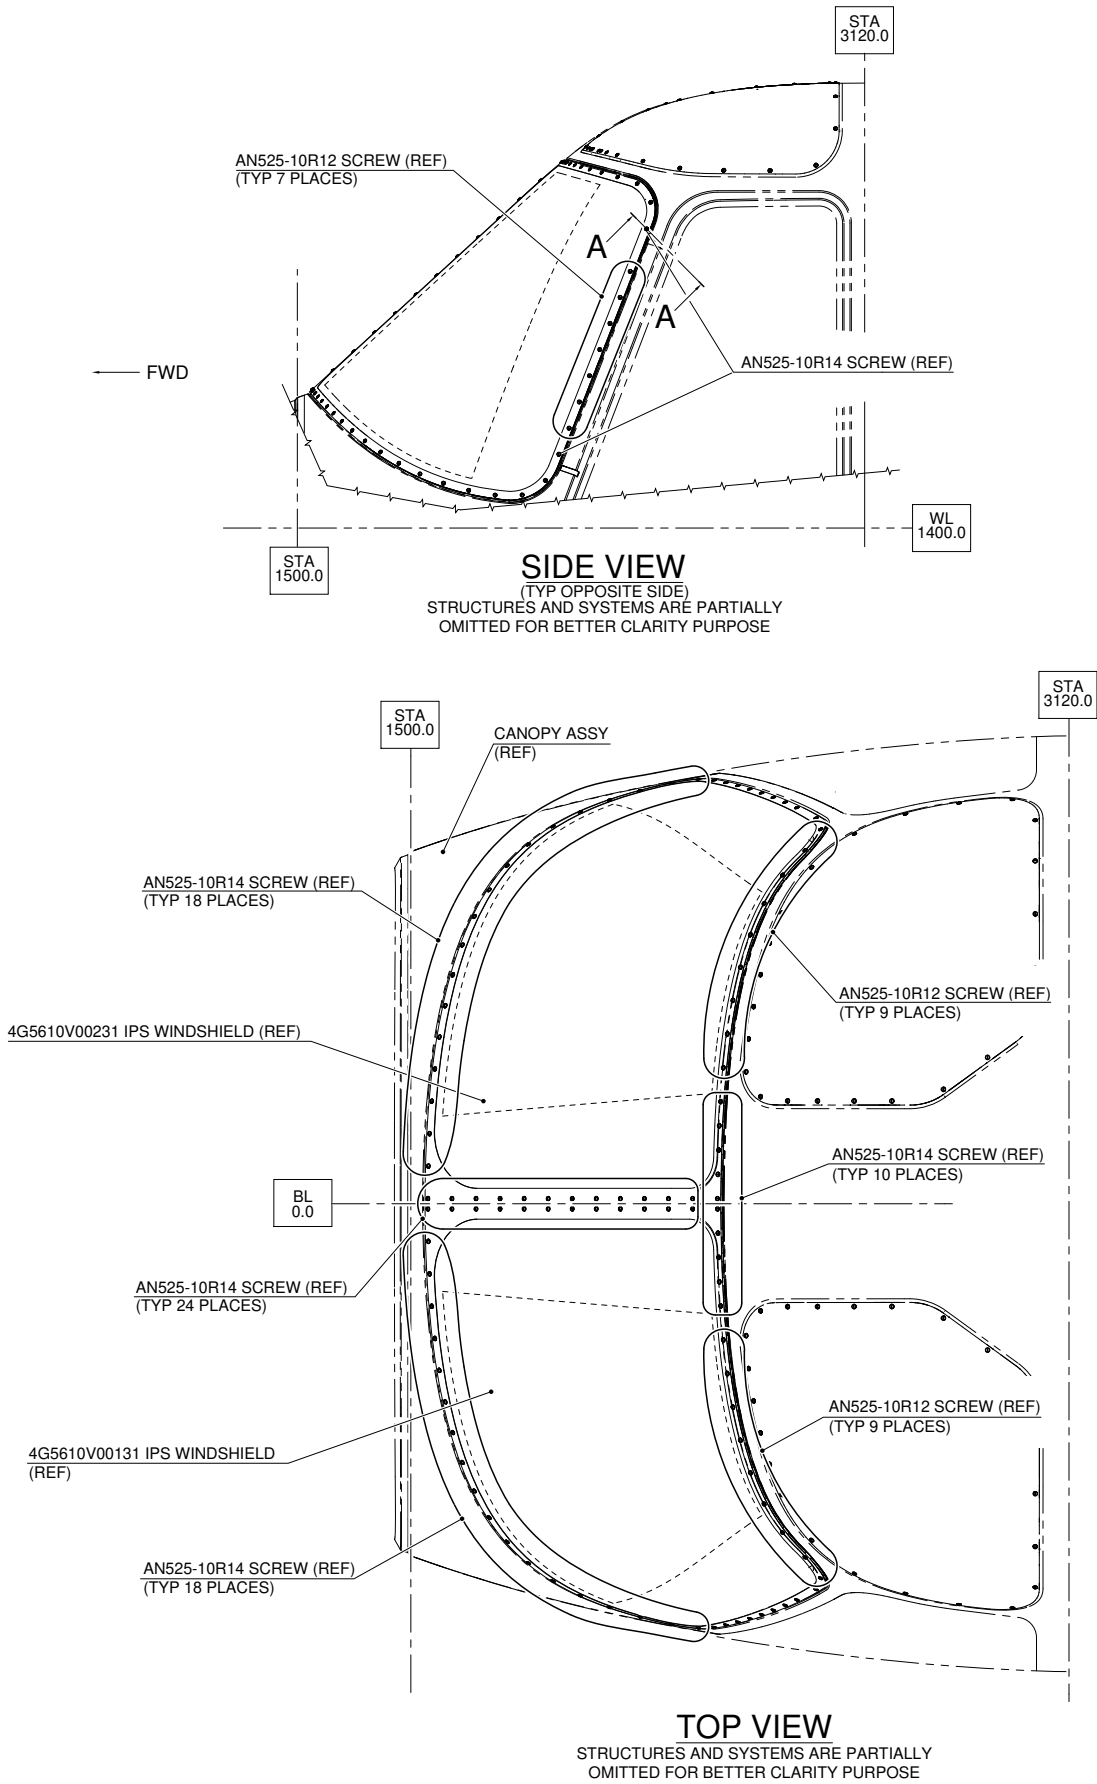

Figure 1
2. In accordance with AMP DM 39-A-06-41-00-00A-010A-A and with reference to Figure 1, 2, 6 and 8, remove all external panels, internal panels and internal liners as required to gain access to the area affected by the installations.
3. In accordance with AMP DM 39-A-30-72-01-00A-520A-K and with reference to Figure 1, remove the left windshield P/N 4G5610V00131 and the related hardware. Retain washers for later re-use.
5. In accordance with AMP DM 39-A-30-72-02-00A-520A-K and with reference to Figure 1, remove the right windshield P/N 4G5610V00231 and the related hardware. Retain washers for later re-use.